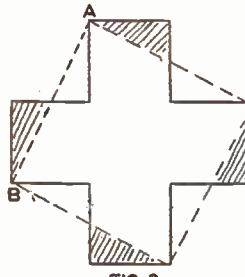

FIG 3
The Greek cross puzzle is much different, as will be seen, but hardly so complicated, and Fig. 3 shows how the cross should be divided to produce the five parts. First a square is produced with sides equal in length to the distance between (A) and (B). If a template is made and laid across the cross as indicated by the dotted lines, the shaded portions can be cut off, leaving a peculiar form of cross. With a little patience you will find that the four small triangles so removed will fit the larger portion to make the square. (S.L.)